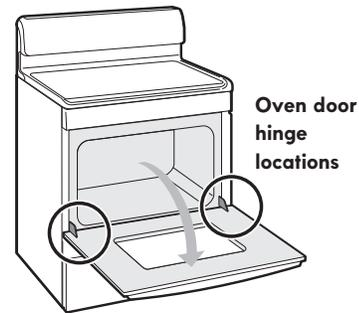

Figure 43: Oven hinge locations
1. Open oven door completely (horizontal with floor - Figure 43).
3. Fully open the oven door (horizontal with floor - Figure 43).